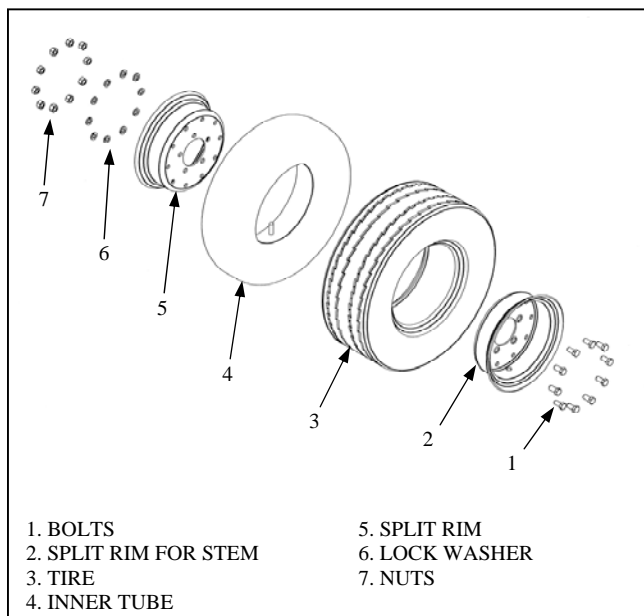

Figure 5-20. Wheel Assembly
5.3.10 Wheel Assembly. The Wheel assembly is a two-piece, split rim design. Use Figure 5-20 for the following maintenance steps.
- c. Remove nuts (7), lock washers (6), and bolts (1).
- d. Separate split-rims (2) and (5) from tire (3).
- e. Remove inner tube (4) from tire (3). Reassembly in reverse order. Ensure that inner tube stem is positioned through access hole in split-rim.
- f. Torque nuts (6) to 150-foot-pounds before applying air pressure to wheel.